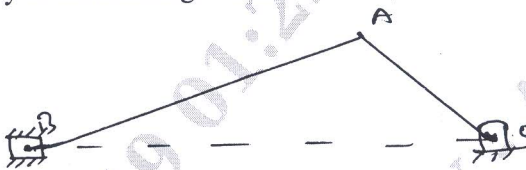

Fig Q4(a)
- 4 a. In a slider crank mechanism shown in Fig Q4(a). The crank  $OA = 300\text{mm}$  and connecting rod  $AB = 1200\text{mm}$ . The crank  $OA$  is turned  $30^\circ$  from inner dead centre. Locate all the instantaneous centers. If the crank rotates as  $15\text{ rad/sec}$  clockwise, find : i) Velocity of slider  $B$  and ii) Angular velocity of connecting rod  $AB$ .